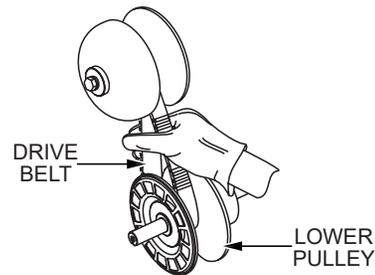

Figure 19. Expanding the Lower Drive Pulley
2. Squeeze the drive belt as shown in Figure 19, and pull the belt upwards. This will spread open the faces of the lower drive pulley.